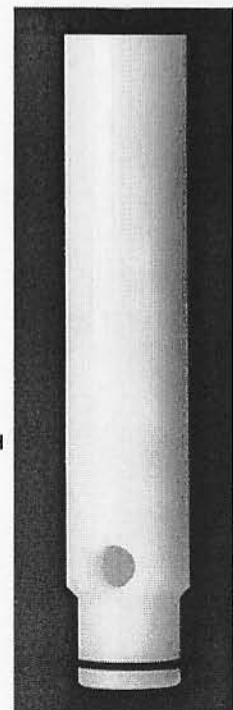

Fig. 40
5. Install the o-ring onto the carburetor tube - Fig. 40. Apply lubricant sparingly over the o-ring and place the assembly in the bottom of the mix pan for sanitizing.